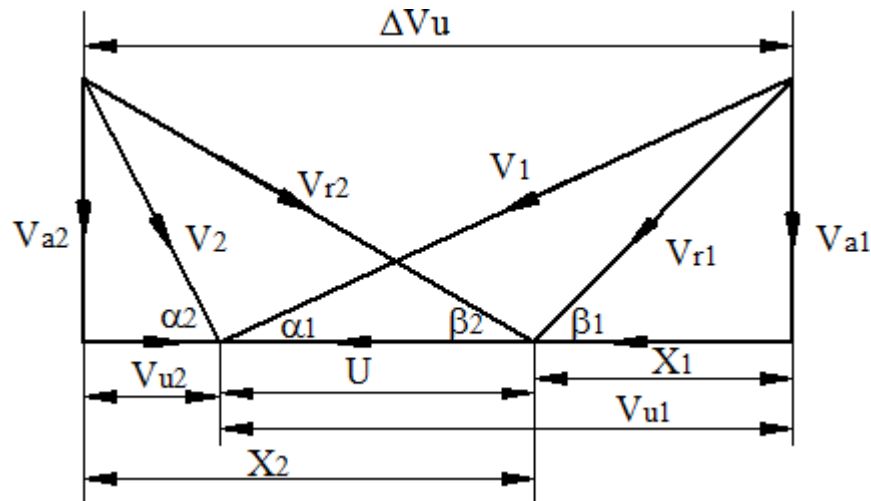

Fig. 4.9 Combined velocity diagram for an axial flow reaction turbine
**Answer:** The combined velocity diagram for an axial flow reaction turbine is as shown in figure 4.9.
From velocity diagram (fig.4.9),  $U = V_{u1} - x_1 = V_{a1}\cot\alpha_1 - V_{a1}\cot\beta_1$
From velocity diagram (fig.4.9),  $U = x_2 - V_{u2} = V_{a2}\cot\beta_2 - V_{a2}\cot\alpha_2$
From velocity diagram (fig.4.9),  $V_a = V_1\cos\alpha_1 = V_{r2}\cos\beta_2$
For Parson's (axial flow 50% reaction) turbine,  $\alpha_1 = \beta_2$  and  $\alpha_2 = \beta_1$  and also  $V_1 = V_{r2}$  and  $V_2 = V_{r1}$ , then the velocity triangles are symmetric (refer figure 4.9).